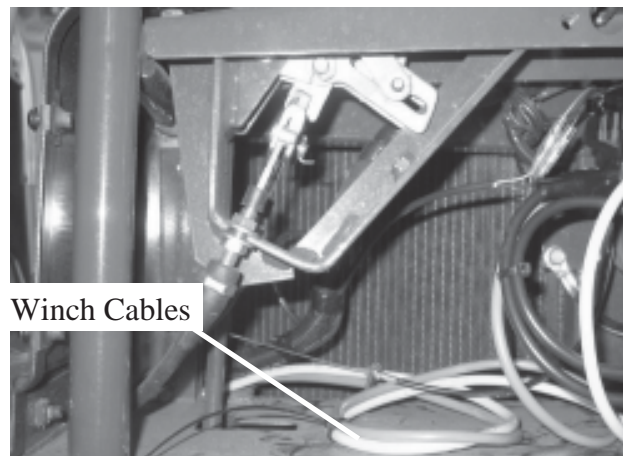

Figure 12
4. Follow the wiring harness into the side compartment, Figure 12.